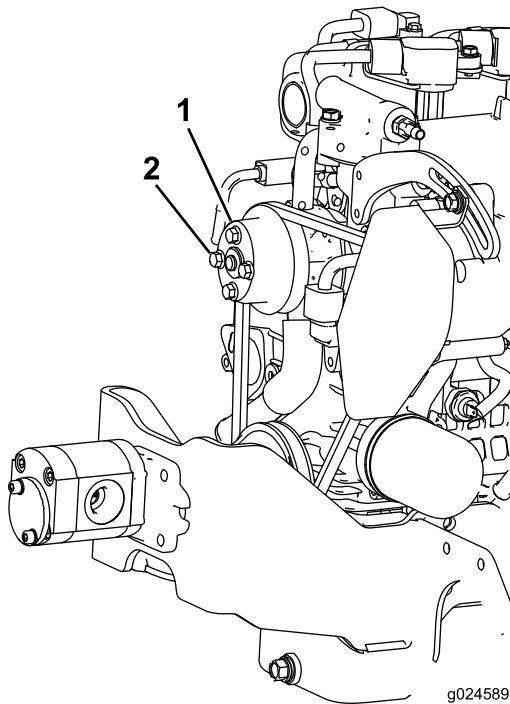

Figure 6
1. Remove the 4 bolts on the pulley; refer to Figure 6.